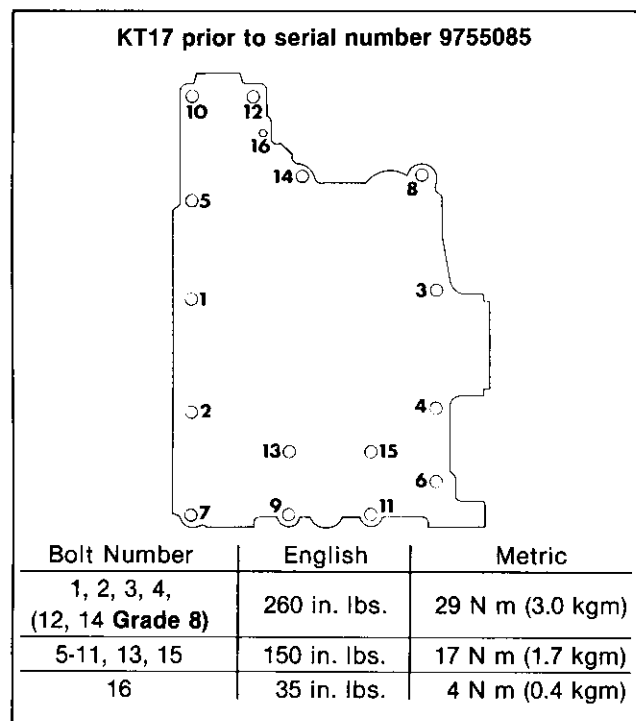

Figure 8-18. Crankcase Torque Sequence.
**Engines with serial number 9755084 or earlier** have an extra crankcase bolt (#16 Figure 8-18). Torque to 35 in. lbs. (4 Nm, 0.4 Kgm).
Engines with serial number 9755084 or earlier, torque the crankcase bolts according to the sequence and values shown in Figure 8-18.